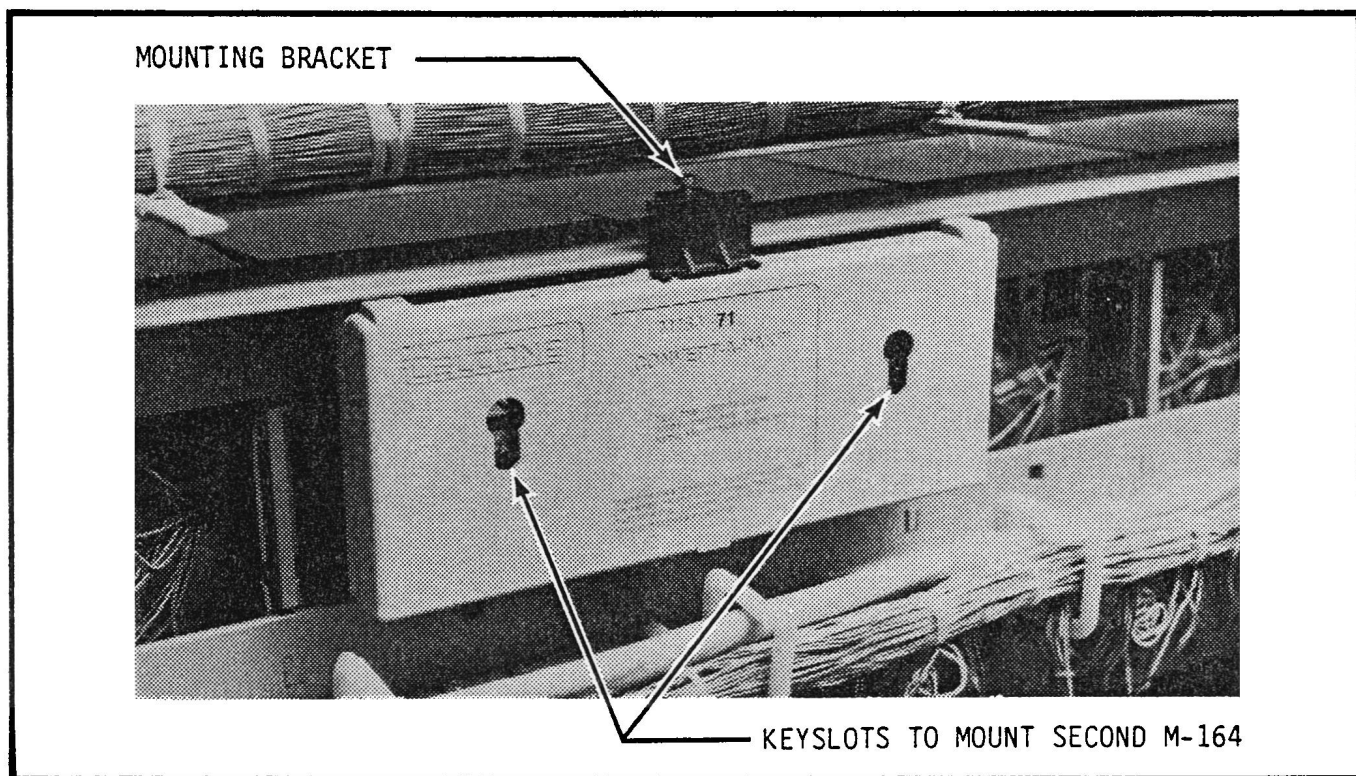

Figure 7 Mount M-164-71 Behind Linefinders
6.15 In the most common application the CONVERT-A-PAK is mounted just above the linefinder cable trough as shown in Figure 7. In practice the units can be hung on almost any horizontal bar within reach of the cable.